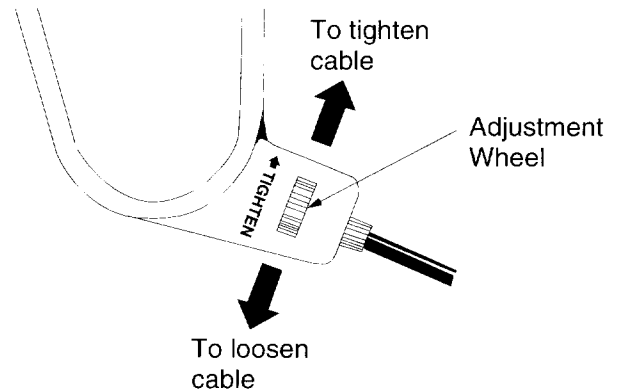

**Figure 12**
- Simply depress the lever towards wheel and move wheel and lever assembly to desired position. All wheels must be placed in the same relative position. See Figure 12.